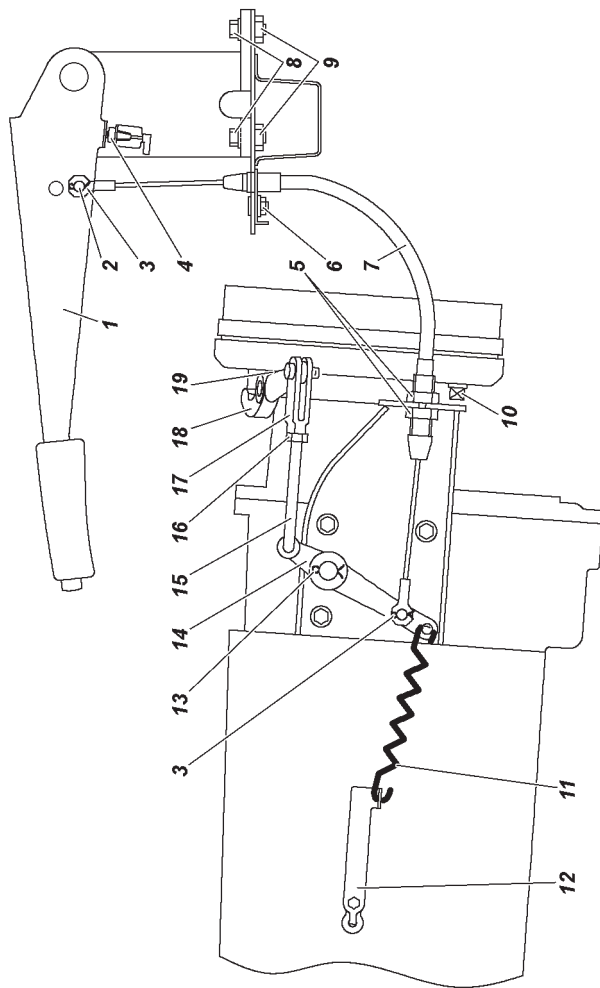

Fig. 9.37. Drive-line parking brake drive:
Drive-line parking brake, affecting the driving system (Fig. 9.37).
2. Lower parking brake lever 1 (Fig. 9.37) into its extreme position.